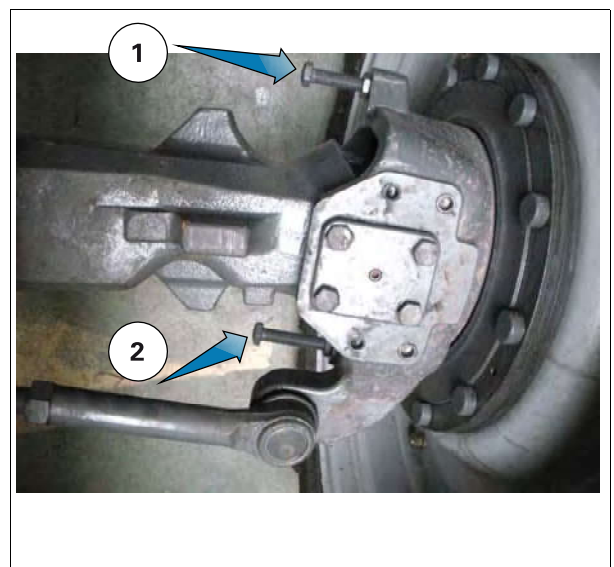

Fig. 5.
3. Start by adjusting the rear stop screw on the side that presents the greatest risk for the front wheel of contact with the immediate environment *fig. 5*, move the axle over the entire length until it touches the oscillation stop in order to adjust the stop screw while maintaining a minimum clearance of 40 mm between the tyre and the nearest point (e.g.: body/attachments).
5. Repeat the adjustment operations (3) and (4) to adjust the remaining stop screws.